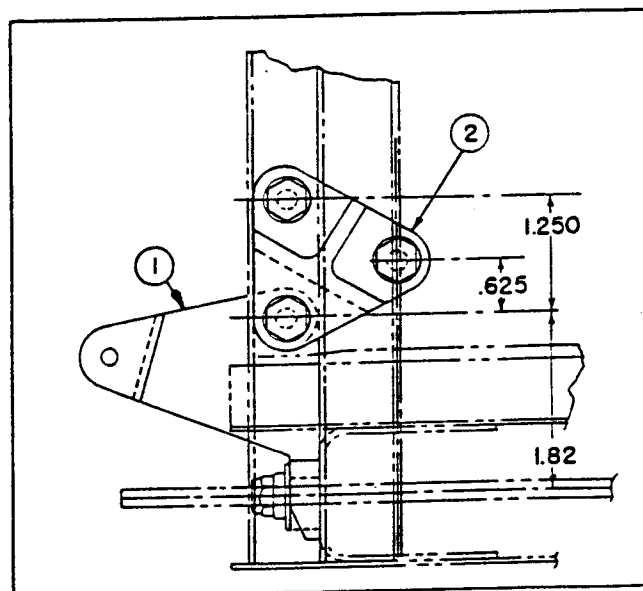

Figure 35. Rigging Nose Gear Normal and Emergency Control Cables
- b. Position the crank assembly (figure 35, references 1 and 2) as shown. Tighten lock nuts to hold in position.